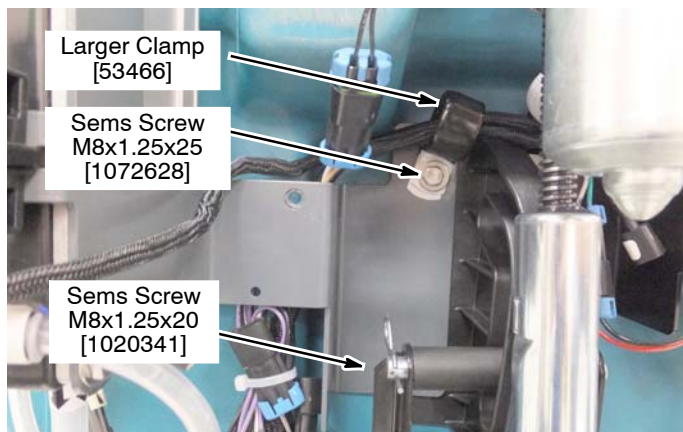

Fig. 14
3. Using larger clamp and new sems screw, install the ec-H2O module bracket assembly as shown (Figure 14). Reroute machine harness through clamp before connecting bracket.